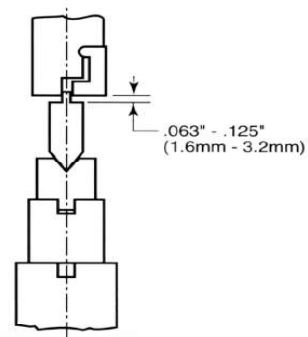

FIGURE 5-13 Removing Tooling
6. Use the palmbuttons to lower the ram to a position where there is .06” to .12” (1.5 mm to 3.1 mm) clearance between the upper and lower dies. See Figure 5-13.
IMPORTANT: *When loosening the upper die clamp bolts make sure upper die will remain trapped between the lower die and the slot in the ram nose See Figure 5-13.*